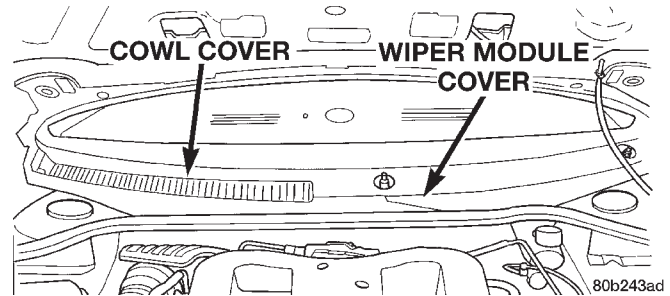

Fig. 18 Wiper Module And Cowl Cover
(5) Remove the wiper arms from the pivots. Wiper arms are removed from the pivots by rocking them back and force on the pivots until they can be pulled off the pivots.
(6) Remove the wiper module cover and cowl cover (Fig. 18).
(19) Install the covers (Fig. 18) over the wiper module and the cowl. Install and securely tighten the attaching screws.